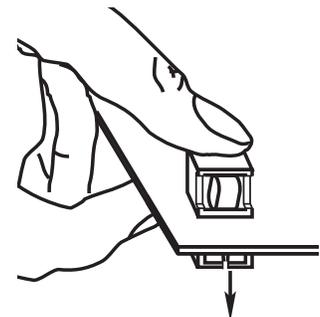

Figure 4
**7.1** The ACH door is secured with plastic squeeze latches (Figure 4).